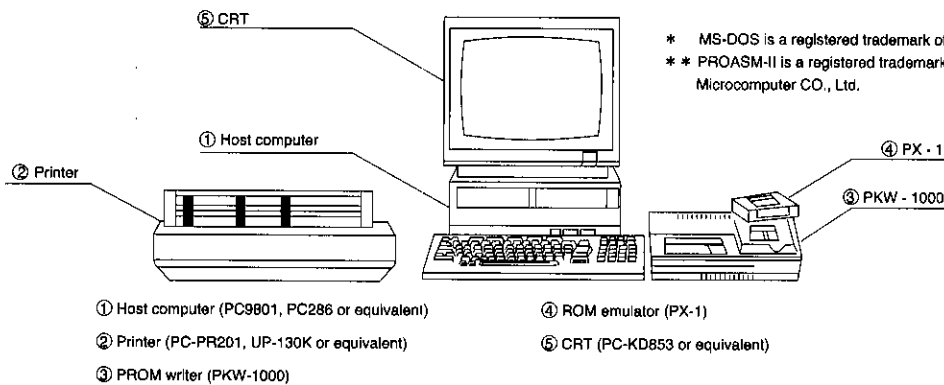

Fig. 17
The personal computer system requires the ability to run MS-DOS * as the operating system (OS). A sample system configuration is shown for reference in Figure 17.
Figure 17 shows an example of a source program, and Figure 19 shows an example of the assembly output for this program.